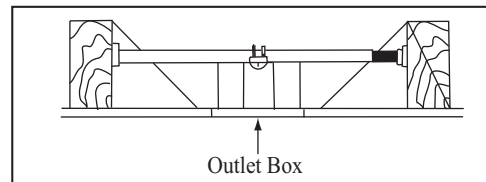

Figure 4
To hang your fan where there is an existing fixture but no ceiling joist, you may need an installation hanger bar as shown in Figure 4 (available at any Home Depot store).
2. Remove the mounting bracket from the canopy by removing the 1 of 2 screws from the bottom of the mounting bracket and loosening the other one a half turn from the screw head. Next, turn the canopy counter clockwise to removing the canopy cover from the canopy. (Figure 4)